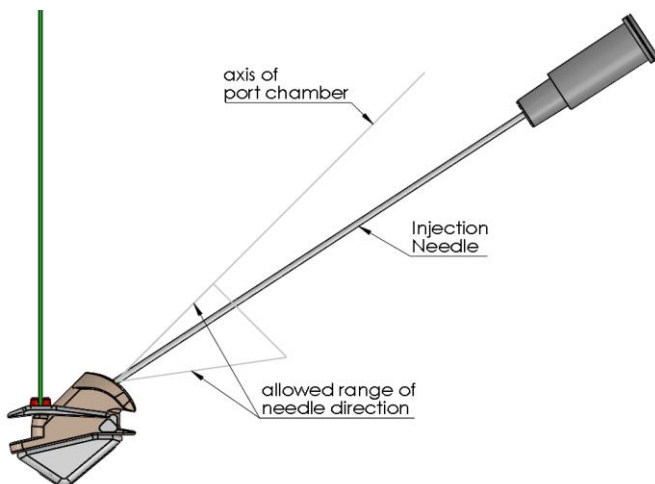

Figure 7: Puncturing Angle
If the implant cannot sufficiently be palpated, then use ultrasound to localize the VOIS Implant. The VOIS Implant has a tilted port chamber which is optimized for the in-plane technique. It is very important that the axis of the needle shows approximately into the same direction as the port chamber (see Figure 7).
- Advance the needle under ultrasound tracking into the port chamber. The examiner can feel a slight resistance when puncturing the port membrane. It is important that the needle has approximately the same direction than the axis of the port chamber. The angle of the needle might be slightly smaller (as shown in Figure 7) but may not be bigger.